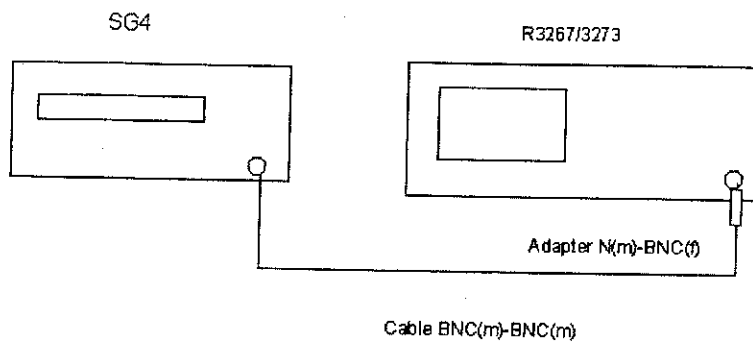

Figure 3-18 Setup of a Sweep Time Accuracy Test
1. Connect equipment as shown in Figure 3-18.